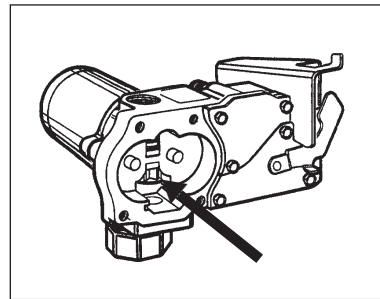

Figure 7
- Push down on the poppet until the poppet O-ring is exposed inside the housing. (Figure 7)